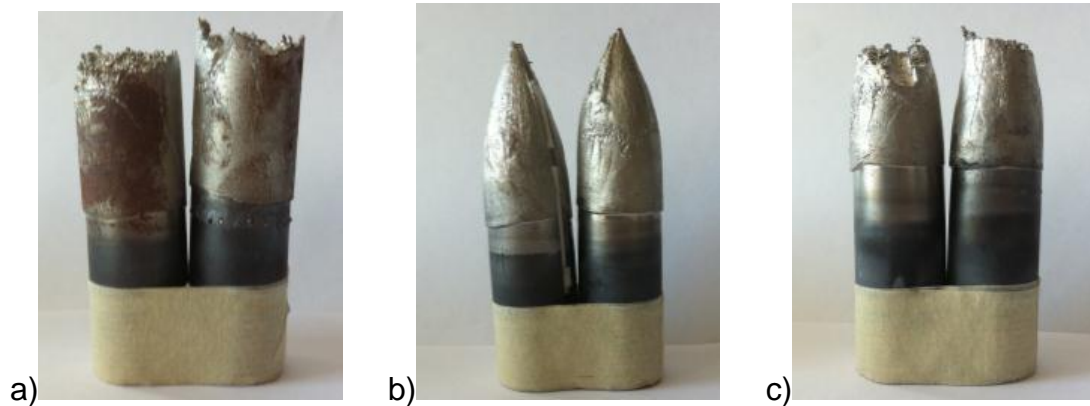

Figure 3:
- b) Figure 3 shows three specimen after testing at 950°C, 1200°C and 1500°C of material A. Which specimen belongs to the previous mentioned testing temperatures? (1,5 Points)